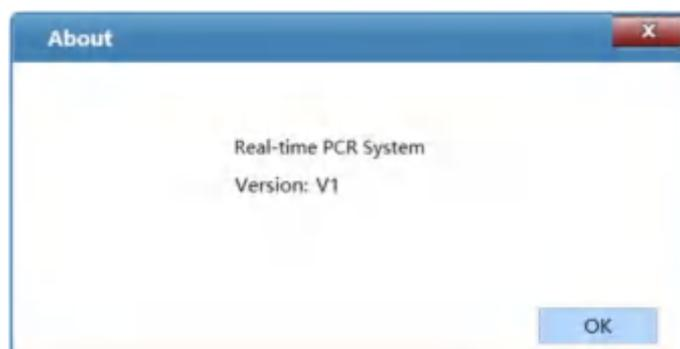

Figure D-2.10 Help submenu - About interface
3. **About**: display the application software version and copyright, as shown in figure D-2.10.